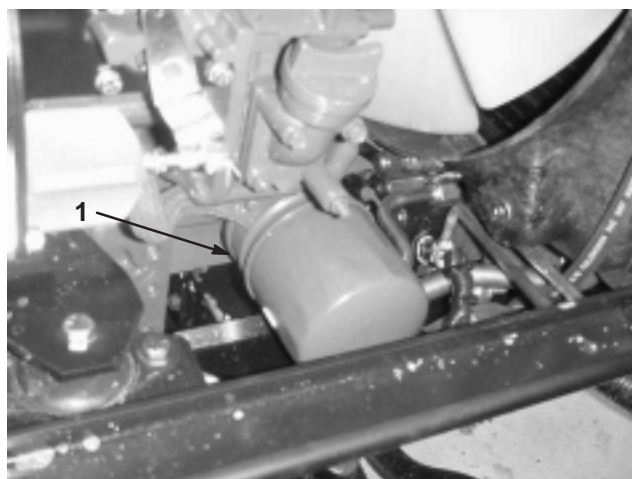

Figure 49
2. Remove the oil filter (Fig. 49). Apply a light coat of clean oil to the new filter seal before screwing it on. **Do not overtighten.**